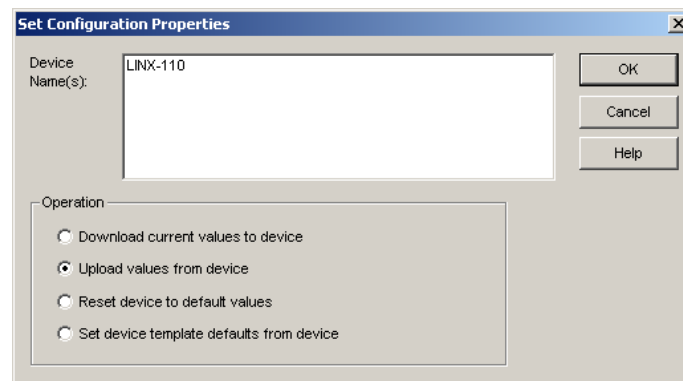

Figure 149: Set Configuration Properties in LonMaker TE.
2. This opens the dialog shown in Figure 149.